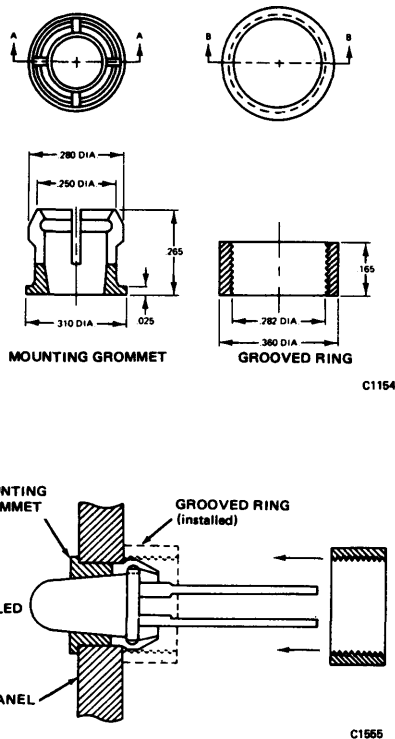

Figure 8a.
**Panel Mounting.** In the "Pop-In" panel mounting method, (see Figure 8a), a black plastic mounting grommet is placed over the top of the lens and the LED is inserted—leads first—into the panel mounting hole until the grommet's flange butts against the panel. Next a grooved ring is placed against the inside-panel end of the grommet, and the ring is pushed on until the LED is securely held in place. The grommet's black color provides contrast improvement. This mounting method allows mounting of the MV5020-Series (T1½ size) lamps in ¼ in. diameter holes on panels having thicknesses from 0.62 in. to 0.125 in.